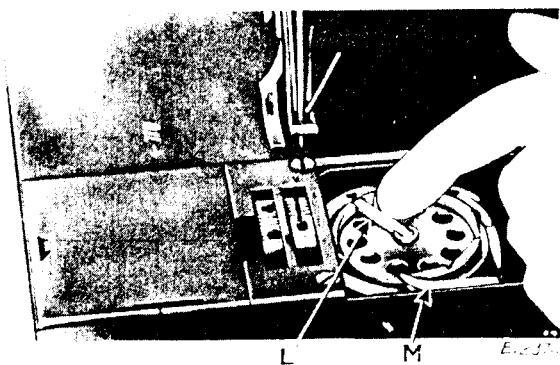

Fig. 7. Removing the Bobbin
Draw back the slide plate in the bed of the machine and turn the machine pulley until the bobbin case opener (M, Fig. 7) moves clear of the bobbin. With the forefinger or a screwdriver, raise the latch (L) to a vertical position and lift out the bobbin.